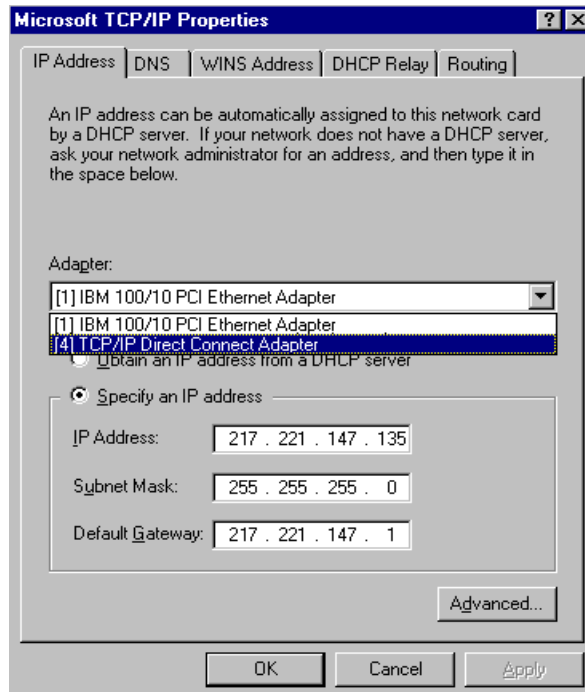

Figure 6-12. Select TCP/IP Direct Connect
10. Use your mouse to select the TCP/IP Direct Connect Adapter from the list of Adapters bound to TCP/IP (Figure 6-12).